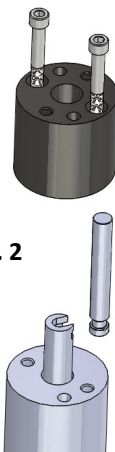

FIG. 2
7. USING THE 3/16 ALLEN KEY, REMOVE THE TWO 1/4-28 X 2" SOCKET HEAD CAP SCREWS FROM THE BLACK PICK UP TUBE SPACER AND SET SPACER AND HARDWARE ASIDE. REMOVE THE INLET BLOCK PISTON FROM THE SLOTTED FIT AND INSERT IT BACK INTO THE OLD INLET BLOCK(FIG. 2)